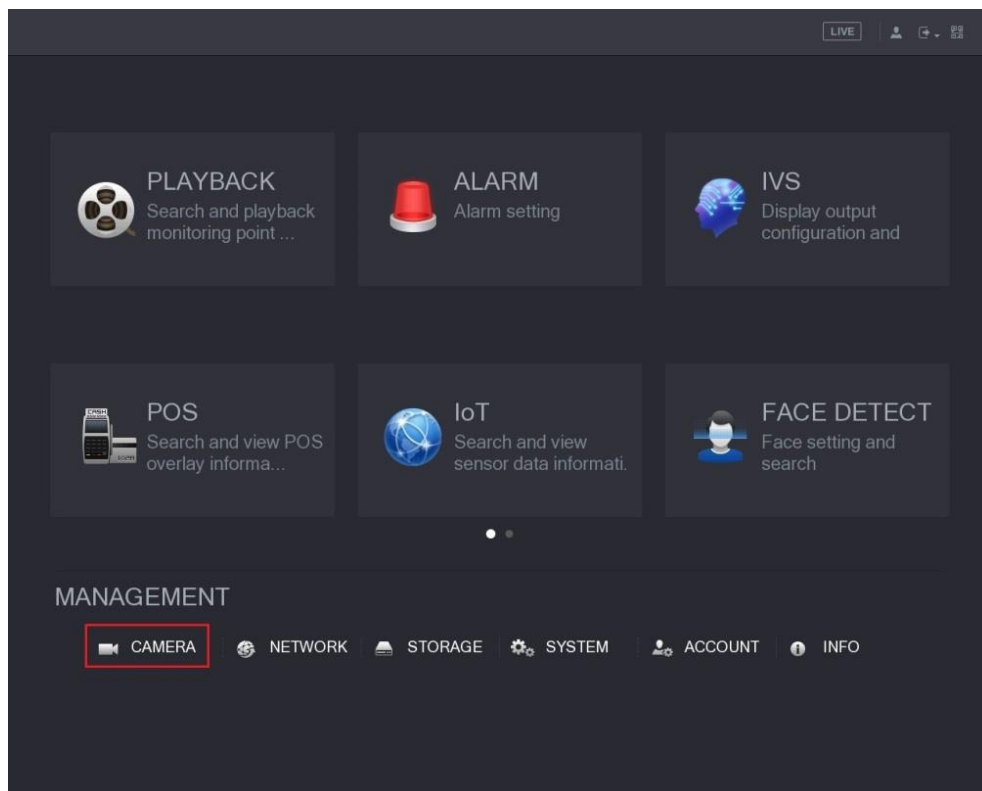

Figure 4-2
Step 2 Click **Main Menu**. The **Main Menu** interface is displayed. See Figure 4-2.
Step 1 In the **Main Menu** interface (Figure 4-2), select **CAMERA > ENCODE > Encode**.